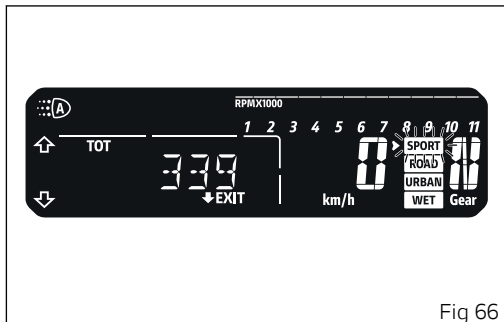

Fig 66
- From the main screen, press and hold the MODE/ENTER button (3) for a long time.
- The dedicated screen is displayed (Fig 66) where an arrow appears next to the currently selected Riding Mode (blinking). Use buttons (1) and (2) to scroll through the available Riding Modes.
- Press the MODE/ENTER button (3) to confirm.